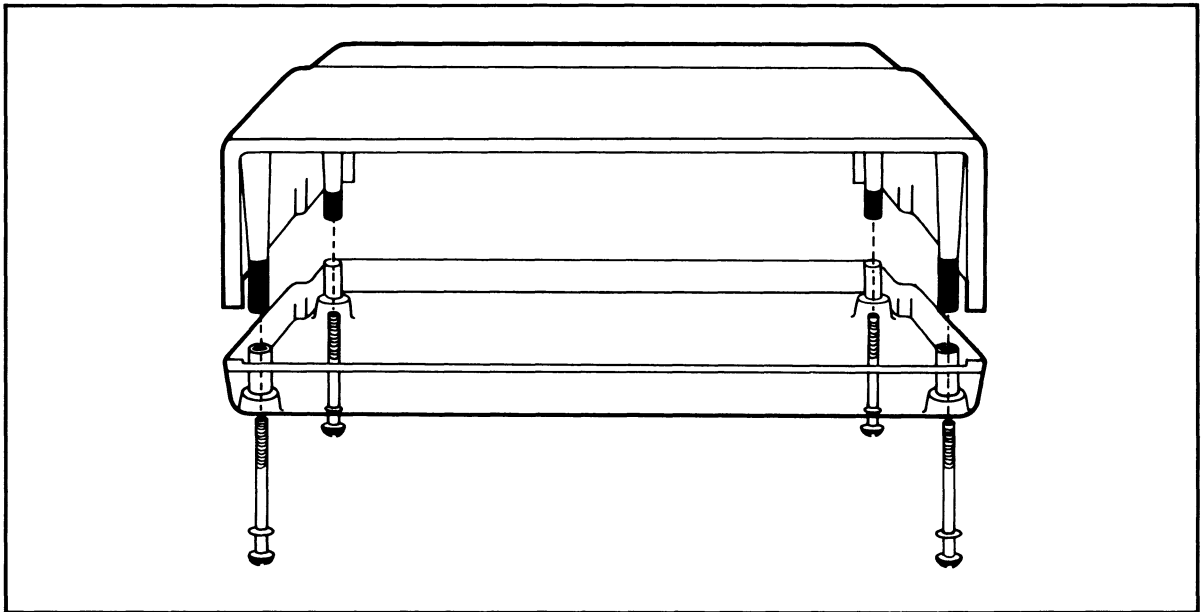

Figure 2-4 Location of Screws in the TS 806/20 Case
1. Open the TS 806/20 case. There are four large screws on the bottom of the case (one in each corner) as shown in Figure 2-4. Without tilting the TS 806/20, remove the screws with a Phillips head screwdriver. Once all screws are removed, gently lift off the cover.